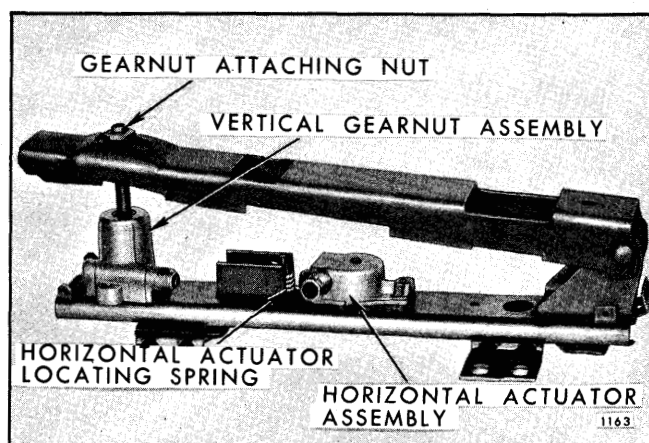
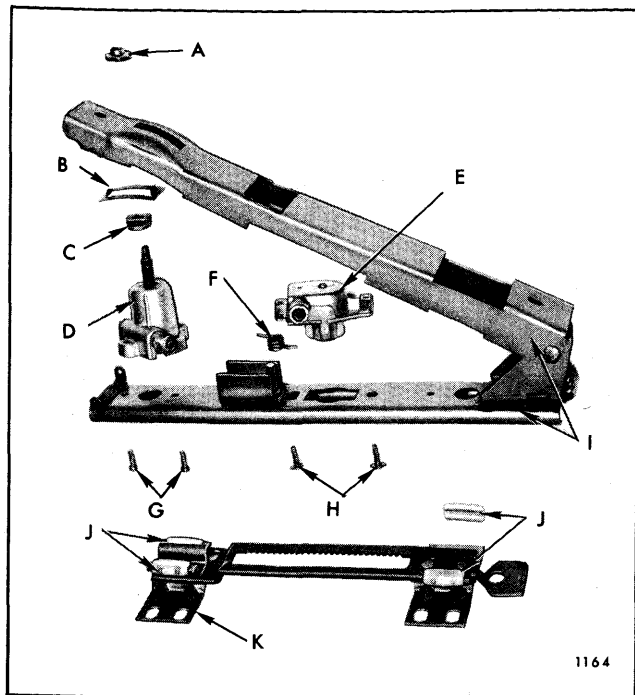

Fig. 10-16—Four-Way Seat Adjuster - Buick "B-C & E" Styles
Fig. 10-17—Four-Way Seat Adjuster Components -
- Remove vertical gearnut attaching nut at adjuster upper track (Fig. 10-16). Lift rear of channel upward and remove gearnut tension spring and washer (Fig. 10-17).
- Lay adjuster on its side and remove screws securing vertical gearnut to adjuster lower track; then, remove gearnut from adjuster (Fig. 10-16).
- Remove screws securing horizontal actuator assembly to adjuster lower track; then, remove actuator from adjuster assembly (Fig. 10-17).
- To install, reverse removal procedure. Make sure horizontal actuator locating spring is properly positioned (Fig. 10-16 and 10-17).